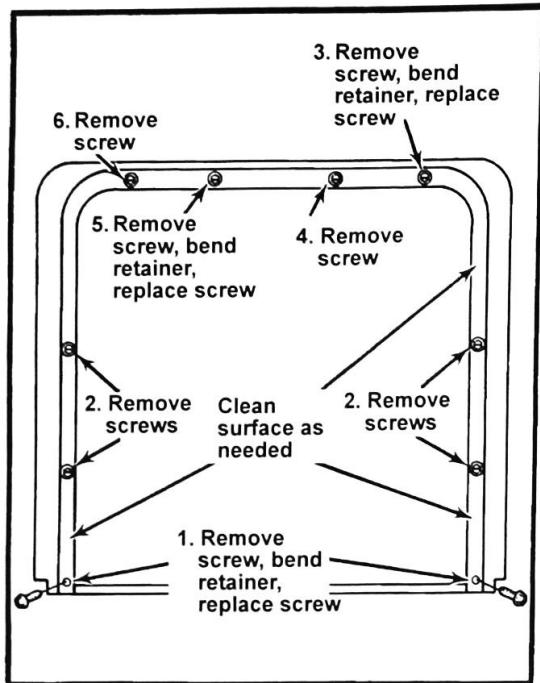

Figure 3
4. For old screw and gasket removal sequence, see Figure 3. Follow in order, steps 1 through 6.